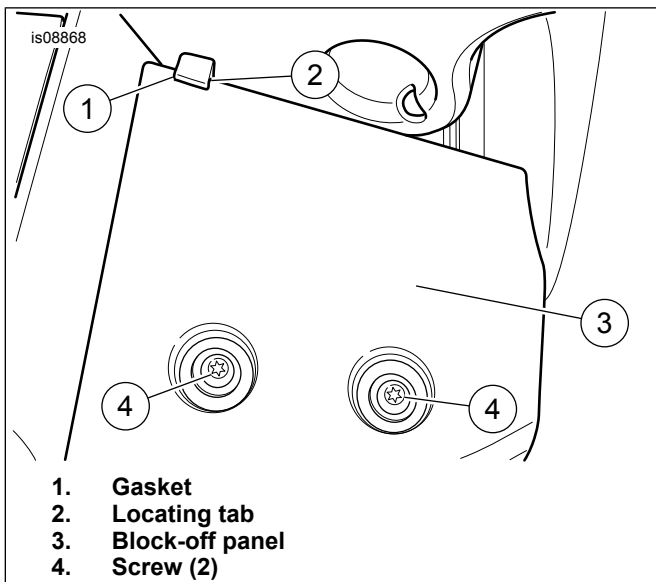

Figure 9. Block-off Panel and Locating Tab Foam
10. See Figure 9. Fold a piece of trimmed gasket (1) over the locating tab of the block-off panel and install the panel.
- a. Apply threadlocker to the threads of the screws (4).